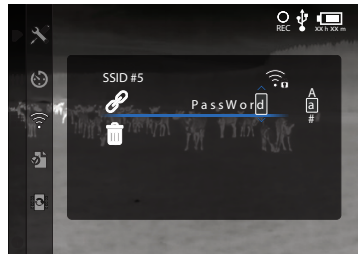

Figure 3
5. Scion prompts you for a password (see Fig. 3).